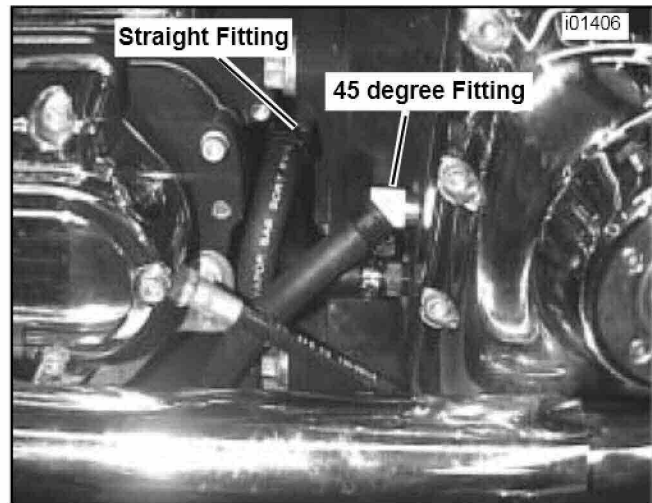

Figure 13. Twin Cam 88 Fittings
3. Remove scavenging oil pump discharge fitting. Obtain 45 degree fitting (P/N 16302-81) from kit. See Figure 13. Place 565 Thread Sealant (P/N 99818-97) on threads and install in pump discharge. Thread until tight with nipple oriented downward. Do NOT overtighten.
4. Remove tank inlet fitting. See Figure 13. Obtain straight fitting (P/N 25259-93) and place 565 Thread Sealant on threads. Install straight fitting.